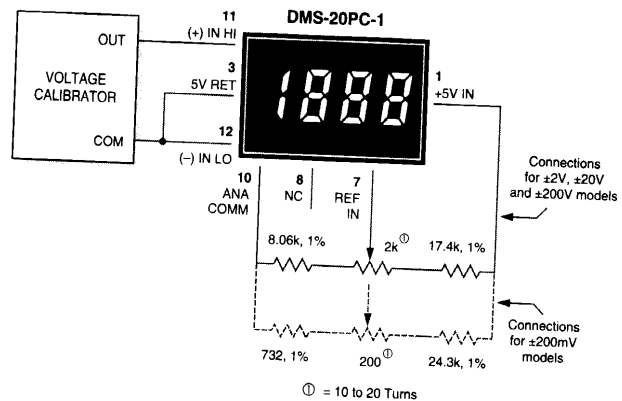

Figure 10. External Gain Adjustment
8. **External Gain Adjustment:** Connect REFERENCE OUT (pin 8) to REFERENCE IN (pin 7) for normal, factory calibrated, operation. Use the circuit shown in Figure 10 for applications needing external gain adjustment. Calibration is performed with a precise, near-full-scale, input voltage.